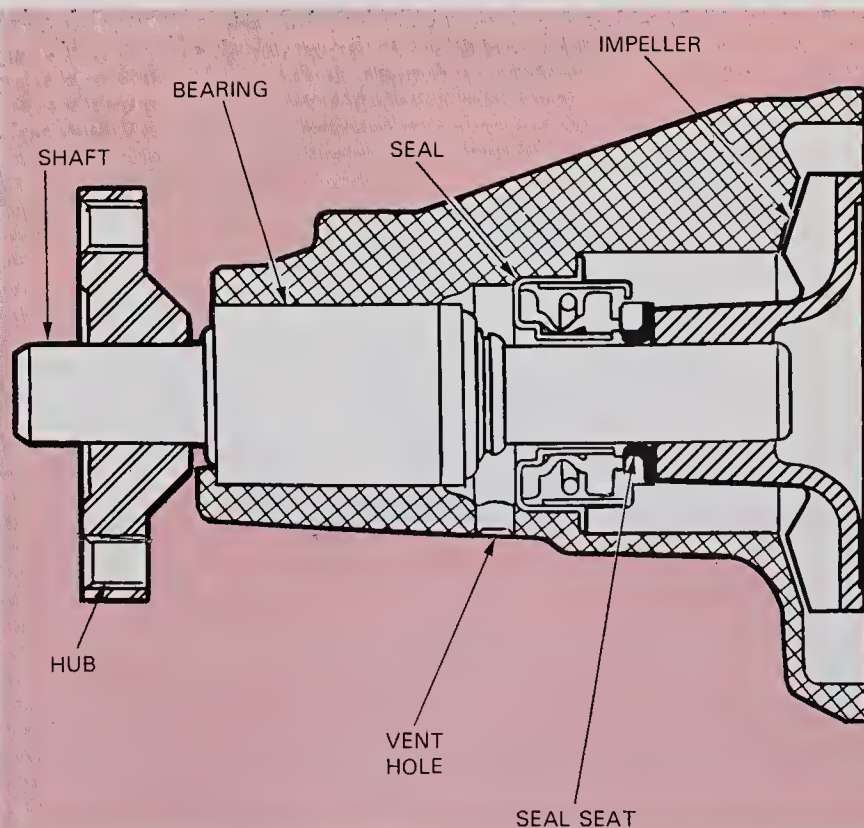

Fig. 35-6. Side view of water pump shows how seal keeps coolant from leaking out vent hole. (Chevrolet)
3. **WATER PUMP SEAL** (prevents coolant leakage between pump shaft and pump housing), Fig. 35-6.